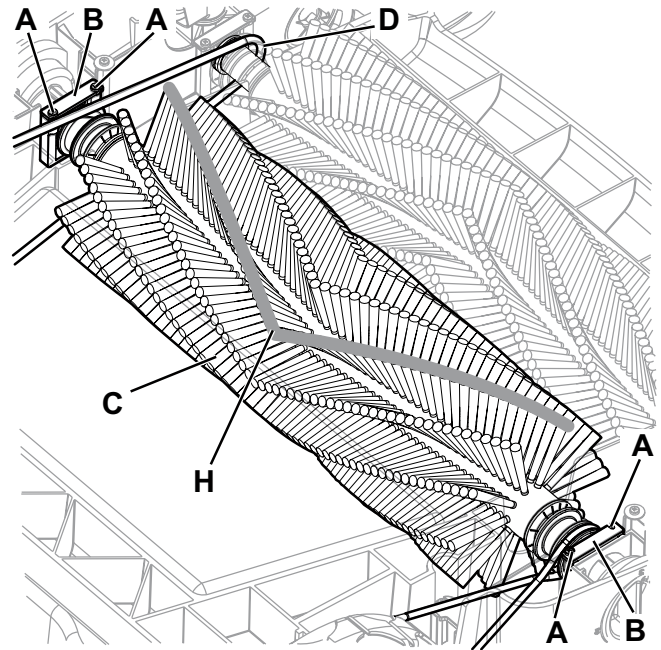

Figure 1
- Remove the screws (A, Fig. 1), then remove the supports (B) with the main broom (C).
- Install the main broom with the bristles as shown in (H, Fig. 1).
- Pay attention to the proper position of the long driving belt (D, Fig. 1).
- Turn the 2 knobs (7) on the position 1.